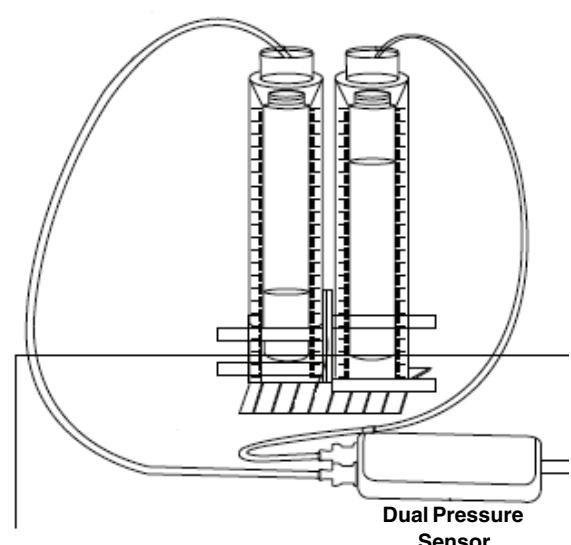

Figure 3
7. **Connect the apparatus to the sensor:** Attach the quick-release connectors at the ends of the two plastic tubes to the Dual Pressure Sensor. (See Figure 3.) After you connect the apparatus to the pressure sensor, allow the system to equilibrate for five minutes before beginning data collection.